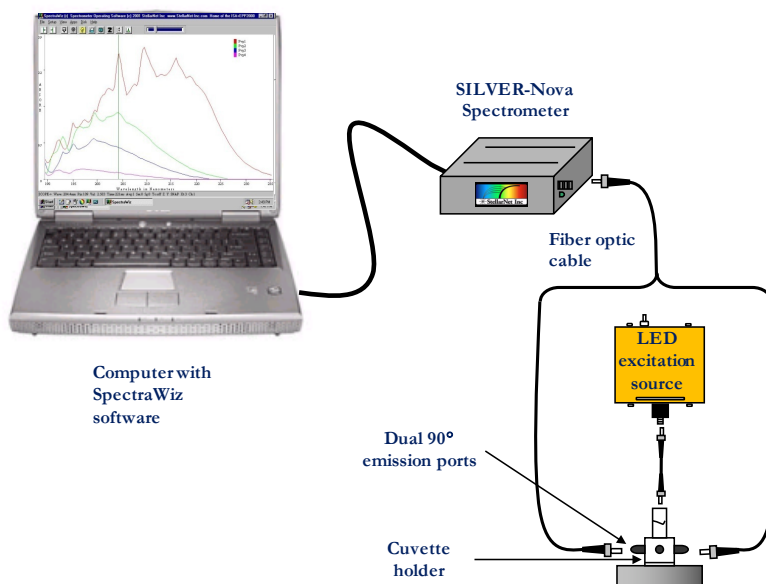

Figure 3: StellarNet fluorescence spectroscopy system
3. Familiarize yourself with the spectrometer system you will use for this experiment. Using Figure 3 as a guide, explain how the spectrometer, light source, and computer (with spectroscopic software) will help you to measure the fluorescence of riboflavin.